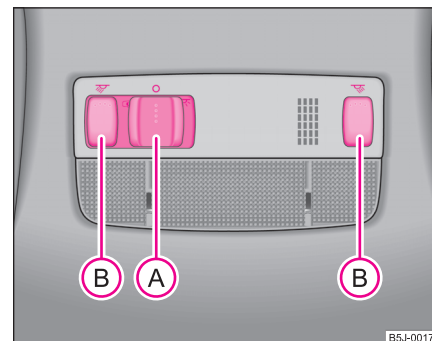

Fig. 40 Detail of the headliner: front interior lighting
- Press the switch **A** to the right into position ⇒ fig. 40.
- Press on one of the switches **(B)** ⇒ page 61, fig. 40 in order to switch the right or left reading light on or off.